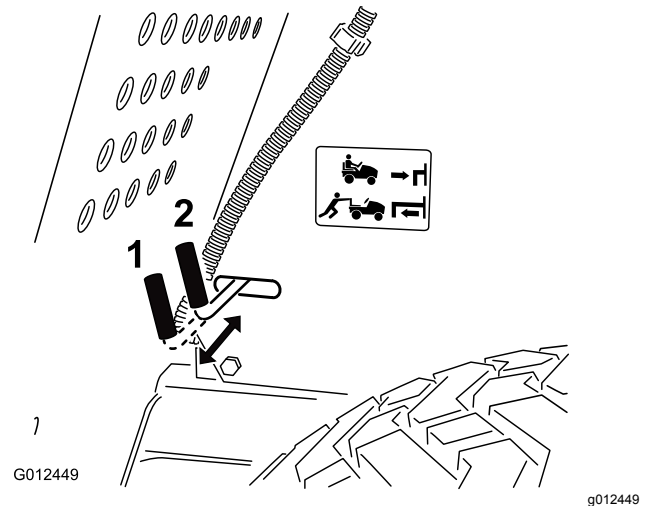

Figure 13
Note: This disengages the drive system and allows the wheels to turn freely (Figure 13).
2. Pull the drive control out to the Operate position (Figure 13) to engage the drive system.